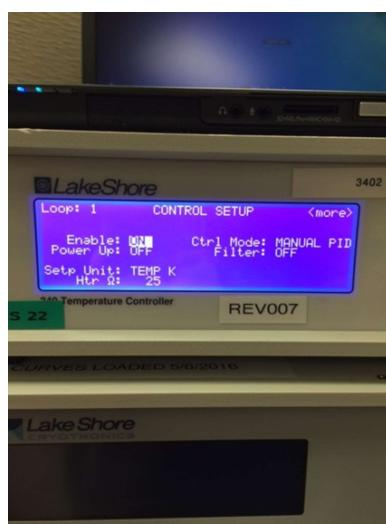

Figure 7
- 2.2 Using enter key, select enable (Figure 7).
- 2.3 Using selection arrow keys, select enable on (Figure 7).